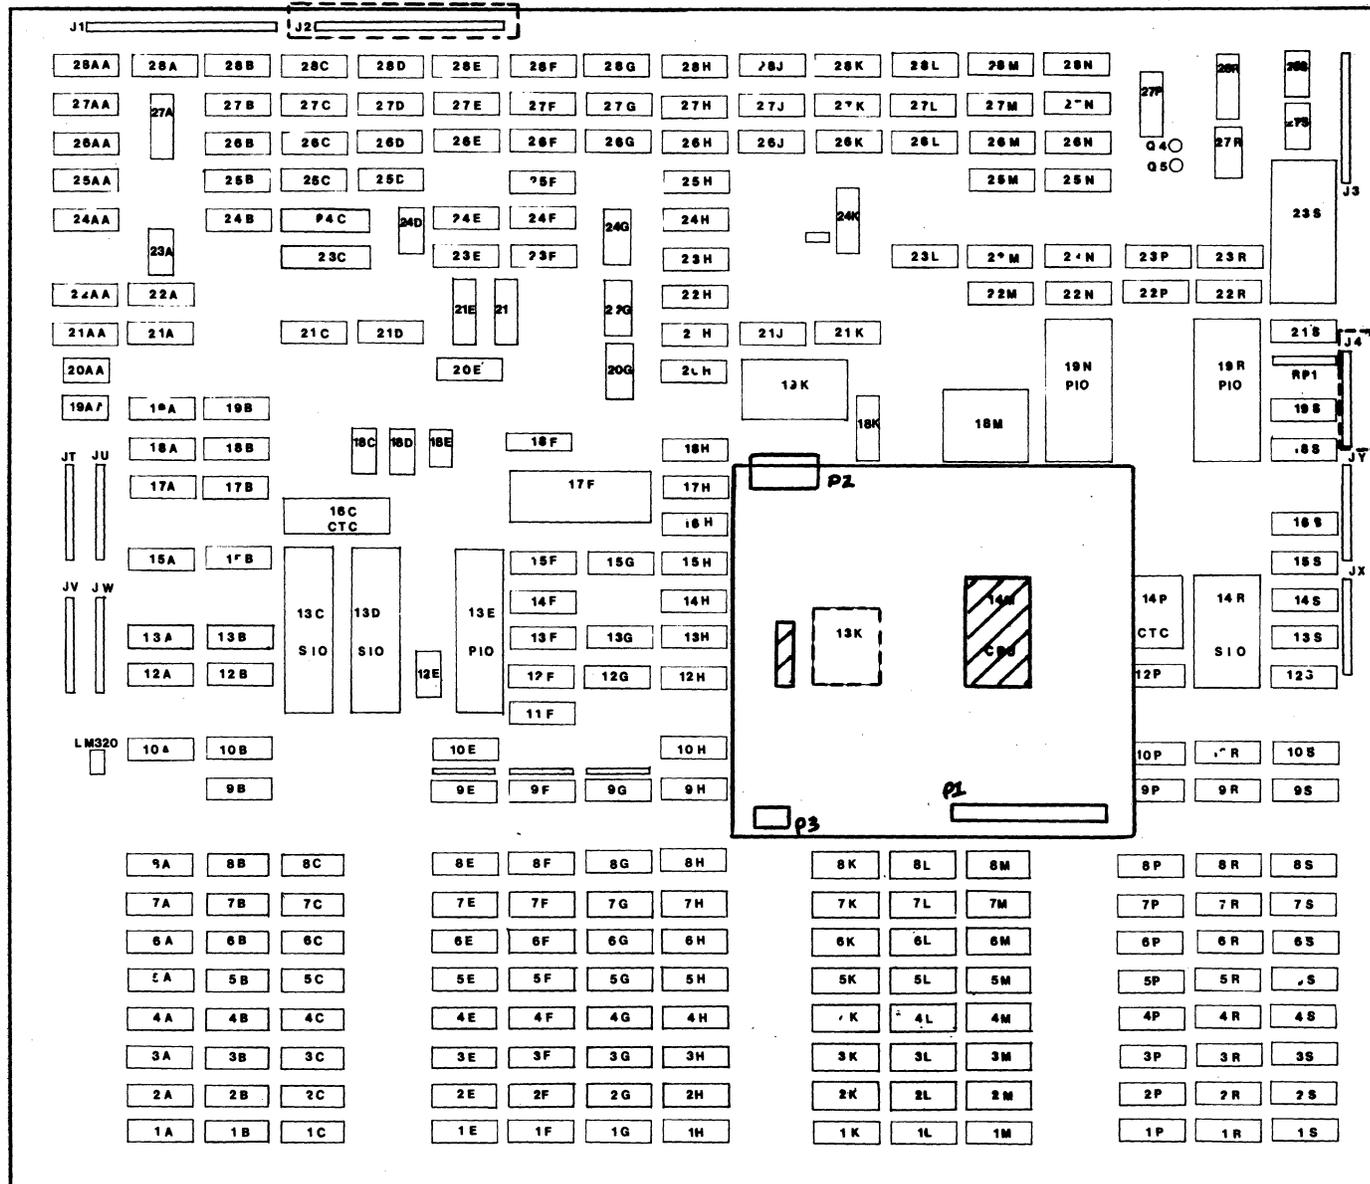

Figure 6-1 8200 PCB with Tape Controller PCB Mounted
- b. Refer to Figure 6-1 for circuit chips and connector locations of the 8200 PCB for the steps below.
- e. Locate and remove the white six-wire power connector; it is to the left of Matrix position 13K on the 8200 CPU PCB (See Figure 6-1).
- h. Remove the 50-pin rear panel additional disk connector (Figure 6-2) from the 8000 computer and from the header at J2 of the 8200 PCB (Figure 6-1). Save the hardware for next step.